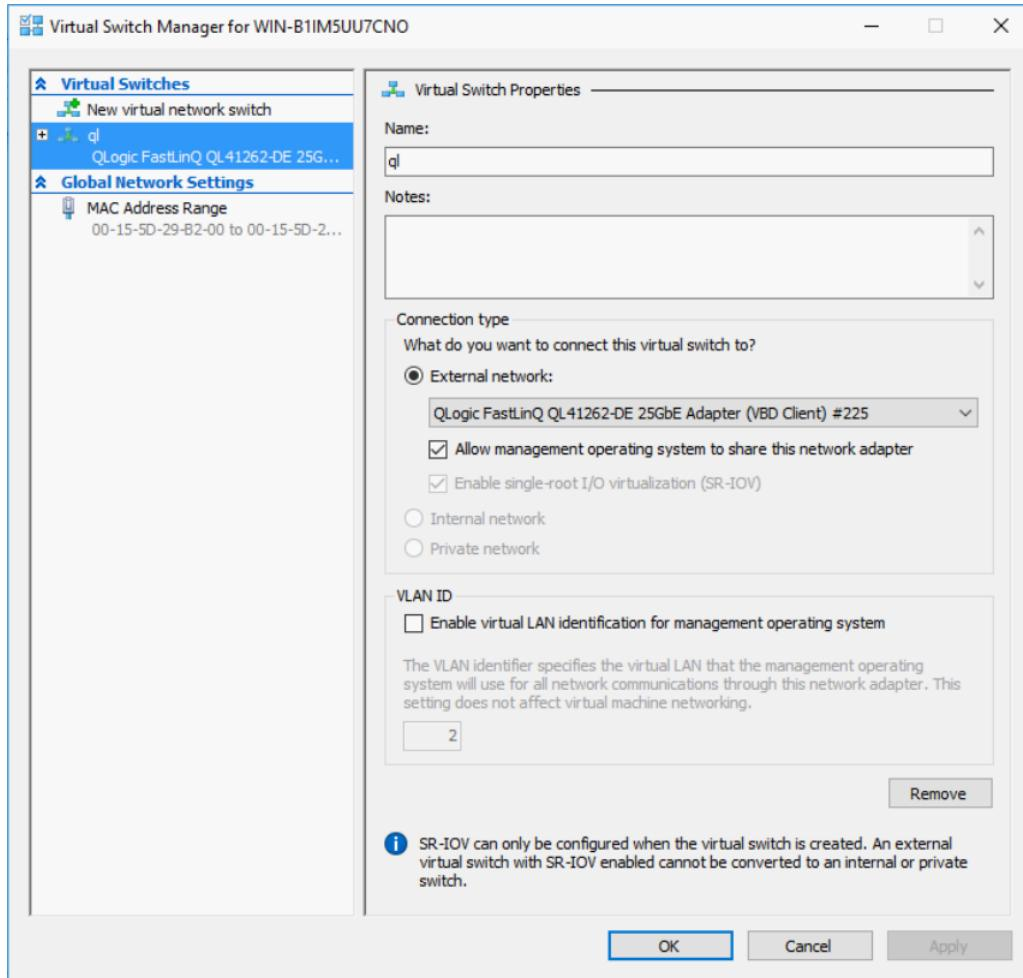

Figure 13-15. Virtual Switch Manager
2. Select **Virtual Switch Manager** (see Figure 13-15).